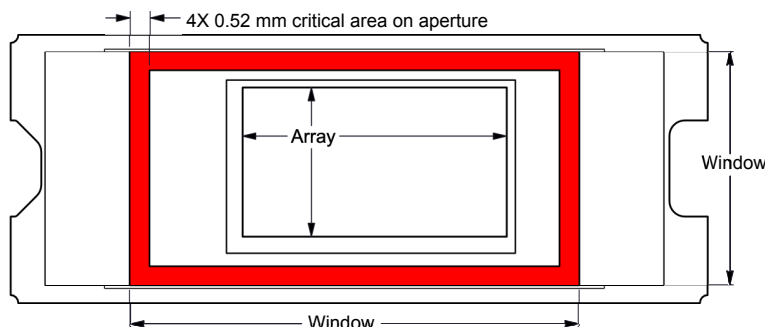

Figure 6-1. Illumination Overfill Diagram - Critical Area
- (16) The average over time (including storage and operating) that the device is not in the elevated dew point temperature range.
- (17) Exposure to dew point temperatures in the elevated range during storage and operation should be limited to less than a total cumulative time of CT_{ELR}.
- (18) The maximum marginal ray angle of the incoming illumination light at any point in the micromirror array, including Pond of Micromirrors (POM), should not exceed 55 degrees from the normal to the device array plane. The device window aperture has not necessarily been designed to allow incoming light at higher maximum angles to pass to the micromirrors, and the device performance has not been tested nor qualified at angles exceeding this. Illumination light exceeding this angle outside the micromirror array (including POM) will contribute to thermal limitations described in this document, and may negatively affect lifetime.
- (19) The active area of the device is surrounded by an aperture on the inside of the DMD window surface that masks structures of the DMD device assembly from normal view. The window aperture is sized to anticipate several optical operating conditions. Overfill light directly illuminating the window aperture can create adverse imaging effects, and additional device heating leading to reduced device lifetime. Direct incident illumination should be prevented from striking the DMD window aperture.
- (20) Applies to the region in red in Figure 6-1, at the inside plane of the glass window where the physical aperture is located.